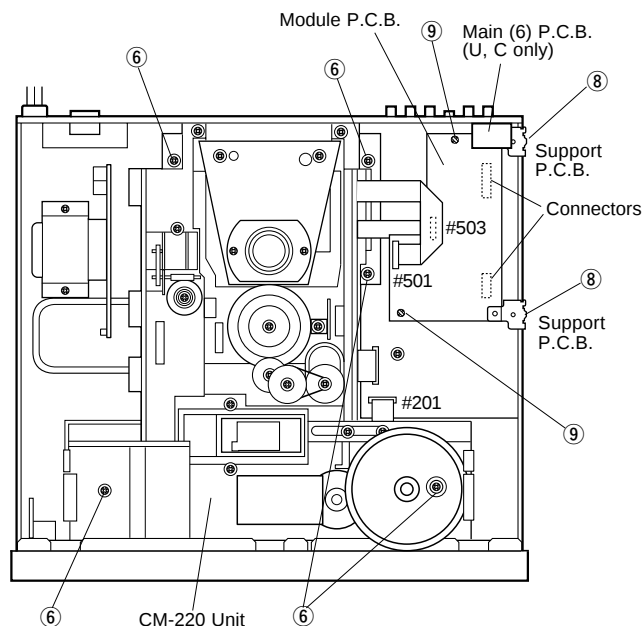

Fig. 4
- Remove 5 screws (⑥) in Fig. 4.
- Remove 4 screws (⑧) and then remove the Support P.C.B. in Fig. 4.
- Release 2 hooks (⑨) in Fig. 4.
- Pull out the Module P.C.B. vertically in Fig. 4.